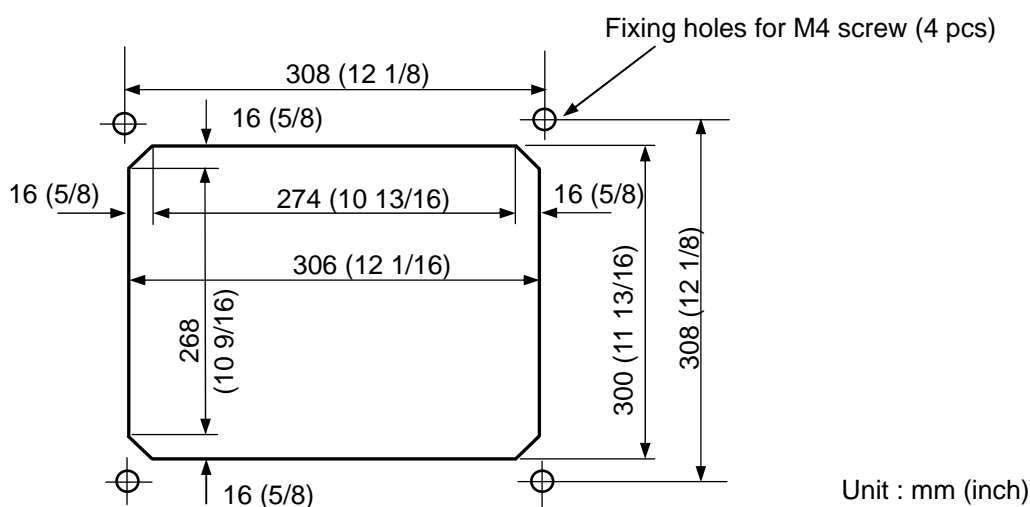
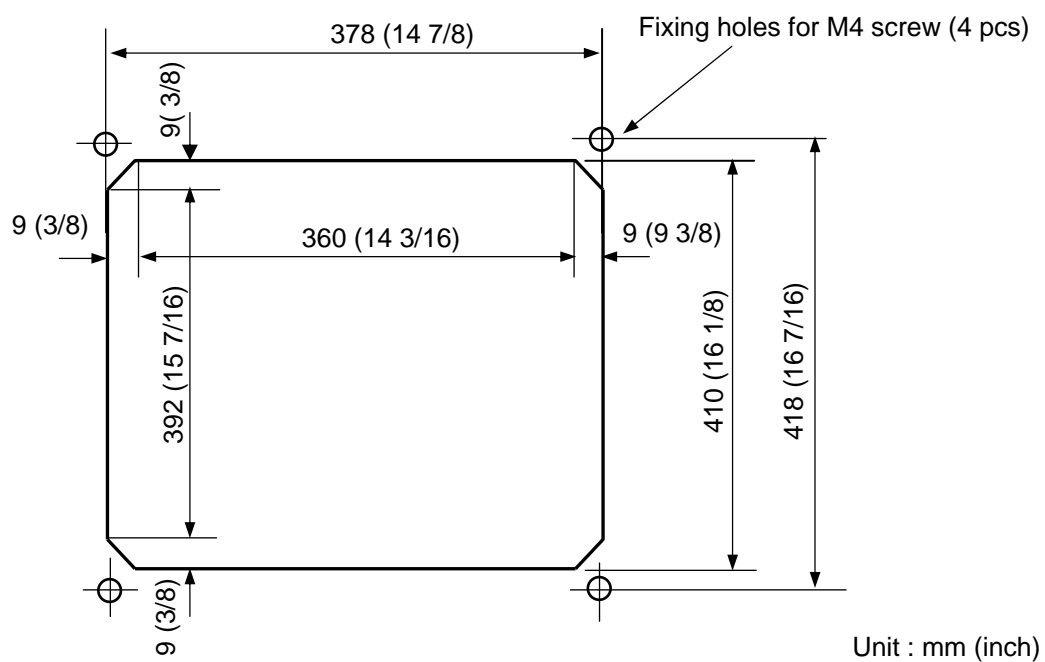

Figure 4.7 Dimensions of opening and fixing holes for GTD-110
Figure 4.9 Dimensions of opening and fixing holes for GTD-150
- (1) Make a rectangle hole at the location to be installed. (See Figure 4.7 and Figure 4.9)
- (2) Loosen the two (2) fixing knobs that fasten the display unit onto the fixing bracket.
- (3) Remove the four (4) plastic screw covers, which are fitted on each corner of the display front face.
- (4) Put the display on the opening and fix with four (4) tapping screws. In case you use M4 screws to fix the display, select an appropriate screw length that best suits fixing the unit to the panel thickness.
- (5) Refit the coverings removed in step (3).